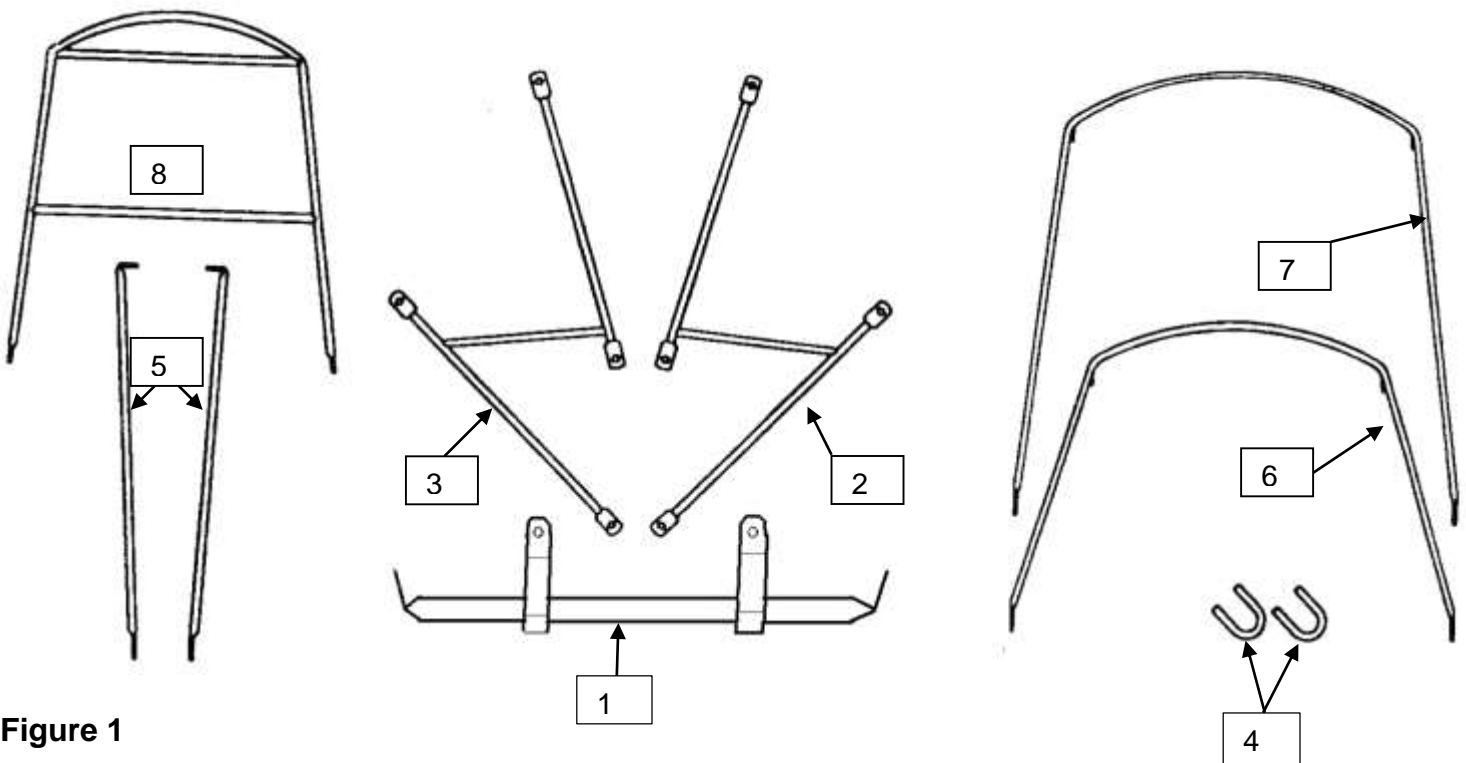

Figure 1
Step 1; See Figure 1: Identify all of the steel parts using figure 1 as an example.